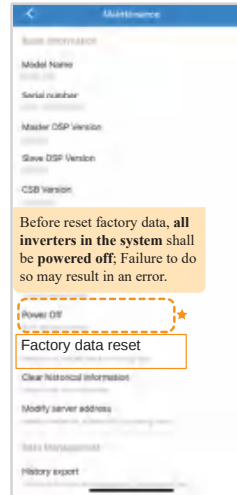

Figure 4-2 Factory Data Reset
- Before three-phase connection, please make sure all inverters in parallel have the same firmware version by verifying the 'Master DSP', 'Slave DSP' and 'CSB DSP' version numbers on App. It is recommended to reset the firmware before the three-phase connection to ensure the same parameter setting for each inverter, as shown in Figure 4-2.
- Restore the firmware: (Admin account) **Console > Maintenance > Maintaining (Factory data reset)** (Figure 4-2)